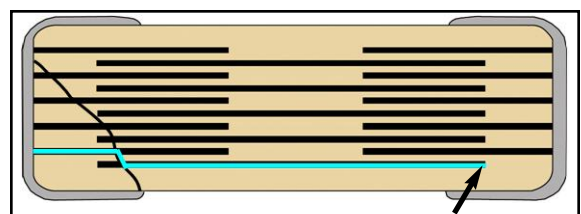

Figure 7. Flex crack does not complete circuit - no short circuit failure.
- For **low** capacitance values, KEMET offers the Floating Electrode (FE-CAP) design. This is also known in the industry as a Serial Cap design, as the Floating Electrode part contains two parts in series, within a singular capacitor body. In Automotive (Clamp 30) designs, sometimes 2 distinct capacitors will be used in series on the PCB – the FE-CAP gives a designer this “two parts in series” - within a singular capacitor. This solution works by eliminating the short-circuit path between electrodes of opposite polarity (See Figure 7). Due to the sacrifice of active